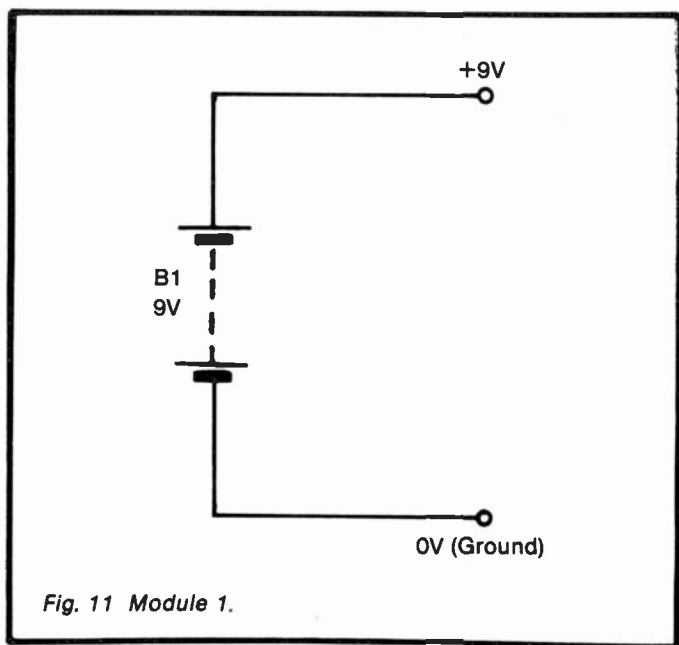

Fig. 11 Module 1.
*Circuit diagram:* see Figure 11.